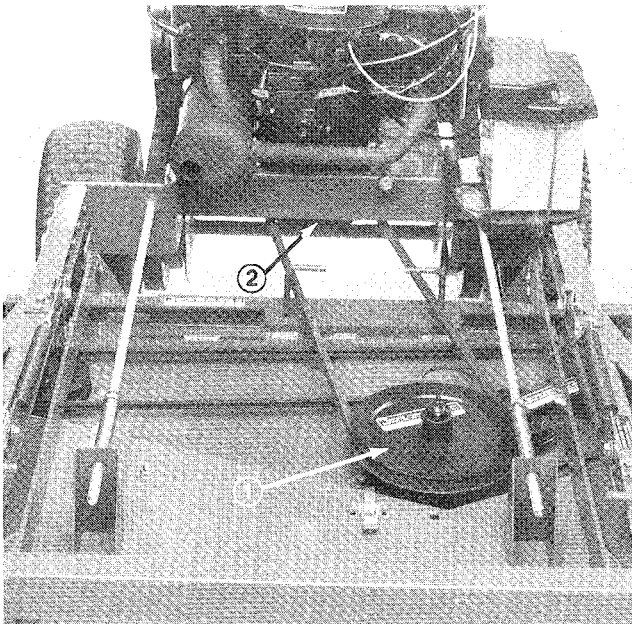

Figure 3
1. Route belt around deck drive pulley and engine clutch pulley (Fig. 3). Make sure belt is between belt guides.